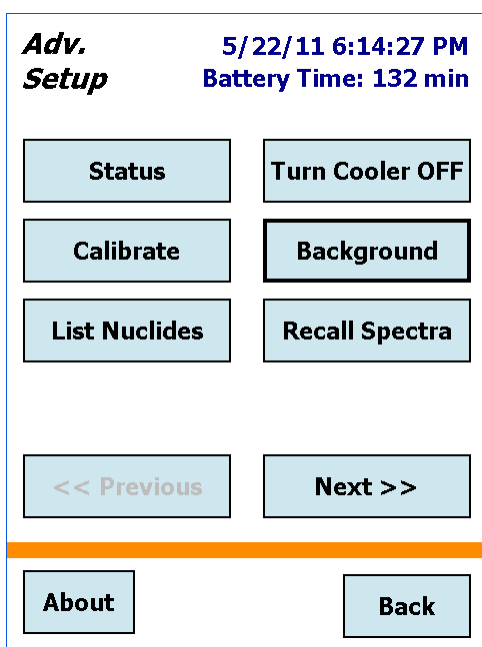

Figure 17. On the Advanced Menu, Tap the Calibrate Button.
- To return to the preceding dialog, tap **Back**. For example, tapping **Back** from the Advanced Setup dialog (Fig. 17 on page 24) returns you to the Survey Mode screen (Fig. 23).
- On the Survey Mode screen, tap on **Advanced** (see Fig. 17), then **Calibrate**.